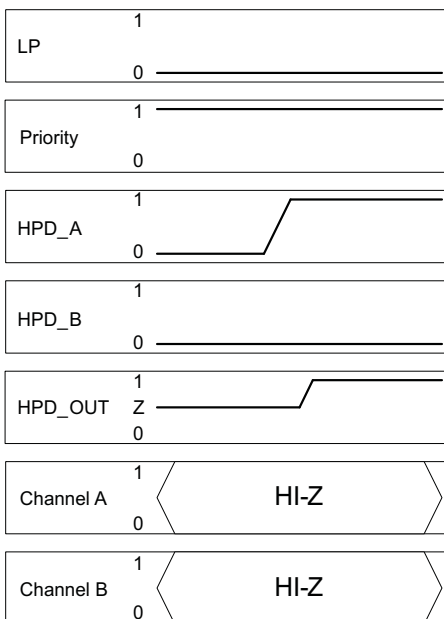

Figure 37.
- Case one: In this case both HPD inputs are initially LOW and the low power pin is also LOW. In this initial state the device is in a low power mode. Once one of the HPD inputs goes to a HIGH state, the device remains in the low power mode with both the main link and auxiliary I/O in a high impedance state. However, the port associated with the HPD input that went HIGH is still selected and the HPD output to the source is enabled and follows the logic state of the input HPD (see Figure 37). The state of the Priority pin has no effect in this scenario as only one HPD input port is active.